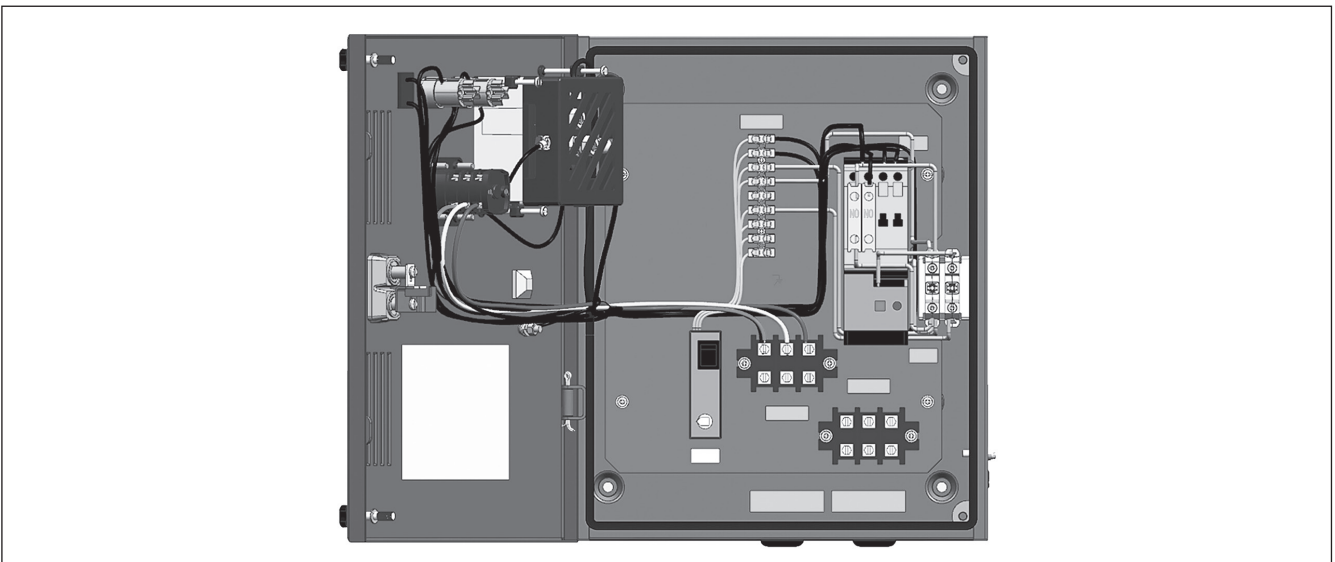

Fig. 2: DOL Controller inside view
- Remove the rubber grommets for the incoming and outgoing cable connections. (Refer Fig. 2).
- Connect incoming and outgoing cables as follows (Refer Fig. 2):
- Set the overload relay scale (Fig. 2) using proper screw driver as follows:
- Press green button of the contact block CB1 (Fig. 2) to start the motor and wait till it reaches to normal speed. Reduce the overload relay settings till it trips.
- Press the red knob (Fig. 2) on the overload relay to stop the motor.
Care should be taken to fix the relay terminals & relay to contactor in the exact position shown in Fig. 2.